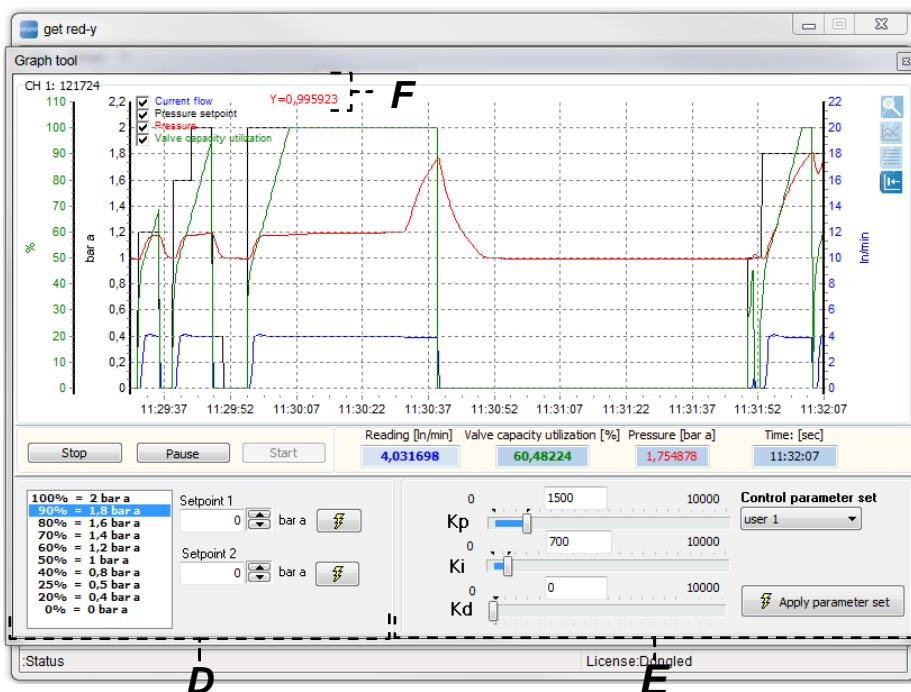

Figure 29: Graphic representation of the measurement value signals for providing the control parameter records in chronologically compressed form
- a. The data is displayed as a graph (see Figure 28 and Figure 29).
- e. Click the button in Item d to switch the image of the button and the measurement data is displayed in chronologically compressed form (see Figure 29), i.e. all data of the measurement value recording is shown in one diagram.